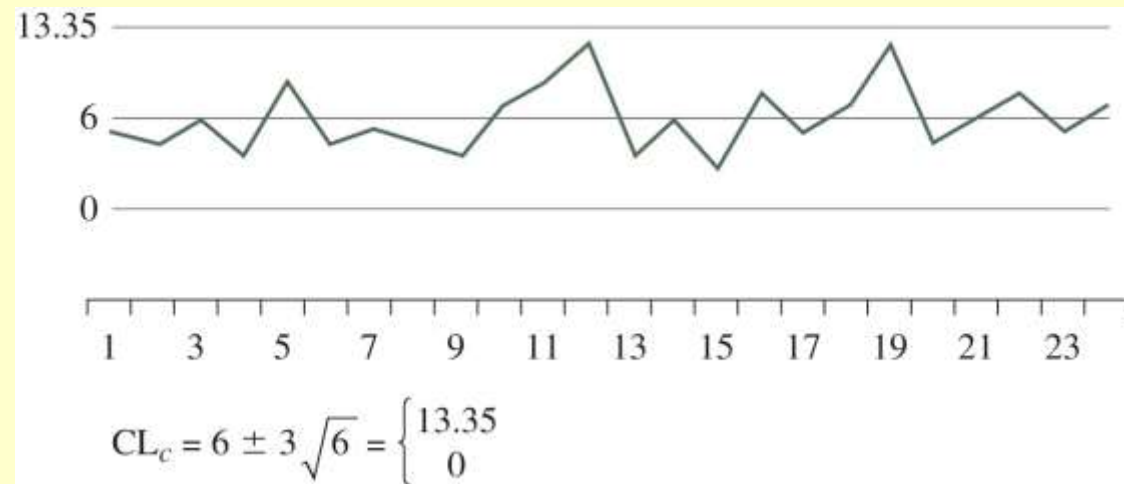

Figure 12-5
- **Solution:** As shown in Figure 12-5 and Figure 12-6, the process for Demis appears to be in control. However, the process for Streakless shows a run of five points below the mean. An assignable cause should be sought.